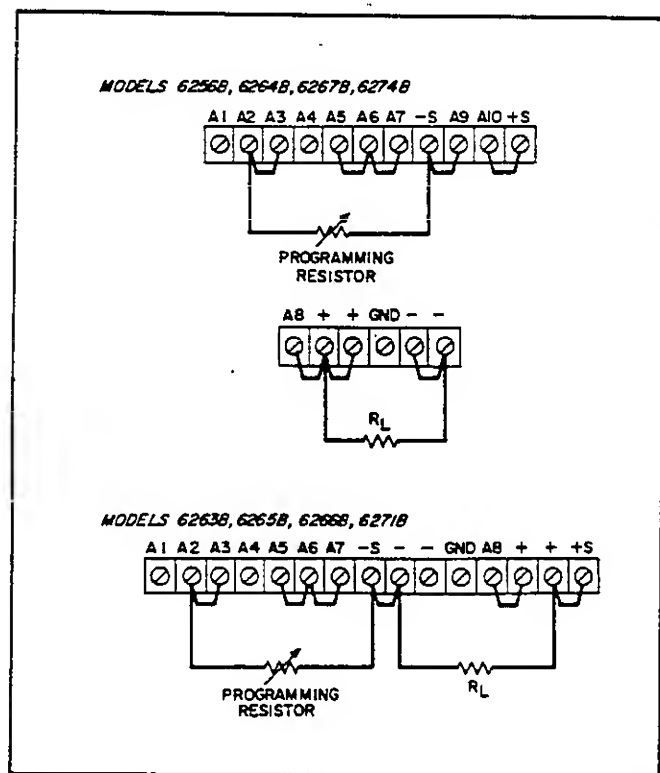

Figure 3-4. Resistance Programming of Output Voltage
**3-37 Constant Voltage Output, Resistance Input.** The rear panel connections shown in Figure 3-4 allow the output voltage to be varied by using an external resistor to program the supply. The supply's constant voltage programming current determines its programming coefficient. In the Models 6256B, 6263B, 6264B, 6265B, 6266B, and 6267B, this programming current is factory adjusted to within 1% of 5mA, resulting in a programming coefficient of 200 ohms per volt. In the Models 6271B and 6274B, a programming current of 3.33mA  $\pm$ 1% produces a programming coefficient of 300 ohms per volt. If a greater programming accuracy is required, it can be obtained either by changing resistor R13 as discussed in paragraph 5-74 or, if the instrument is equipped with Options 020 or 022, by adjusting potentiometer R122 as discussed in paragraph 5-75.